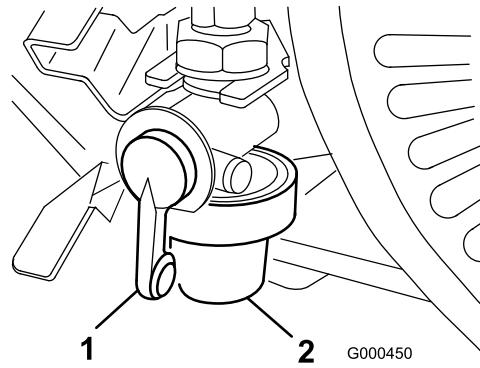

Figure 25
1. Close the fuel shut off valve and unscrew the bowl from the filter body (Figure 25).